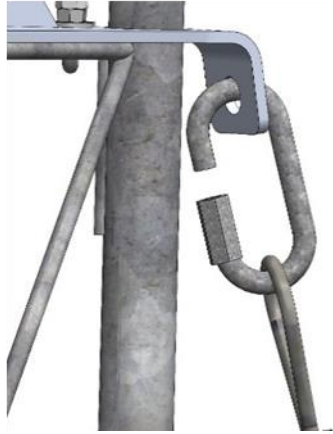

Figure 48 Quick link orientation
2. Insert the quick links onto the flanges of the guy attachment plate and camera top mount plate as per Figure 48.